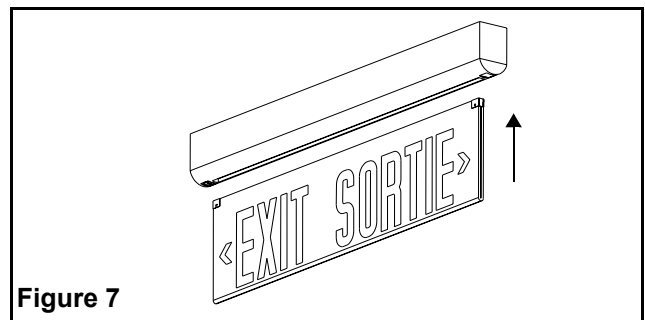

Figure 7
3. Partially remove the protective sleeve from the panel. Push the panel, with clips installed, into the slot in the trimplate assembly until it snaps (see fig. 7). Gently try to pull out the panel to ensure that it is engaged in the trimplate assembly. Remove the protective sleeve.